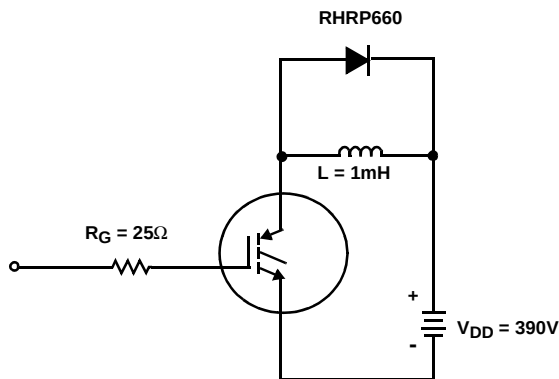

FIGURE 20. INDUCTIVE SWITCHING TEST CIRCUIT
| Current Turn-On Delay Time              | $t_{d(ON)I}$  | IGBT and Diode at $T_J = 25^{\circ}\text{C}$$I_{CE} = 7\text{A}$$V_{CE} = 390\text{V}$$V_{GE} = 15\text{V}$$R_G = 25\Omega$$L = 1\text{mH}$Test Circuit (Figure 20) | -   | 11  | -         | ns            |
| Current Turn-On Delay Time          | $t_{d(ON)I}$    | IGBT and Diode at $T_J = 125^{\circ}\text{C}$$I_{CE} = 7\text{A}$$V_{CE} = 390\text{V}$$V_{GE} = 15\text{V}$$R_G = 25\Omega$$L = 1\text{mH}$Test Circuit (Figure 20) | -   | 10  | -   | ns                   |
- Values for two Turn-On loss conditions are shown for the convenience of the circuit designer.  $E_{ON1}$  is the turn-on loss of the IGBT only.  $E_{ON2}$  is the turn-on loss when a typical diode is used in the test circuit and the diode is at the same  $T_J$  as the IGBT. The diode type is specified in Figure 20.